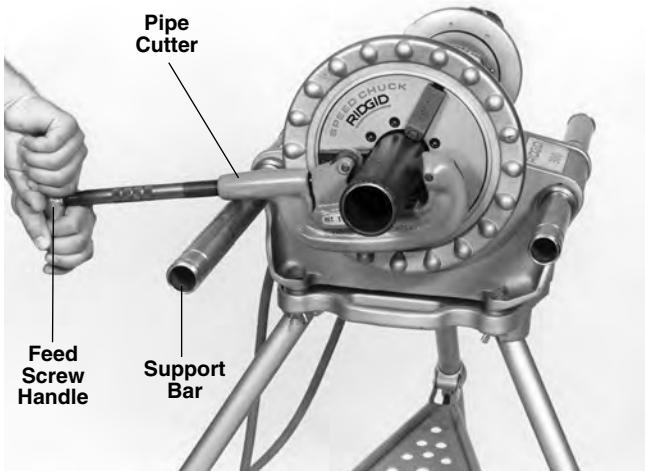

Figure 5 – Cutting Pipe with Hand Cutter
2. Align the cutter wheels with the mark on the pipe and rest the pipe cutter's body on the left support bar (*Figure 5*). Hand-tighten the pipe cutter to the workpiece using the feedscrew handle while keeping the cutter wheels aligned with the mark.
5. Grasp the pipe cutter's feedscrew handle with both hands (*Figure 5*) and depress and hold down the foot switch with the left foot.